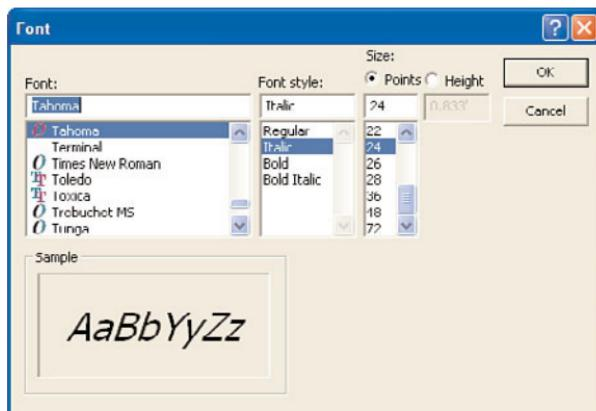

FIGURE 4.14 Setting text properties.
4. Click the **Change Font** button in the Entity Info dialog box. The Font dialog box appears, as shown in Figure 4.14.